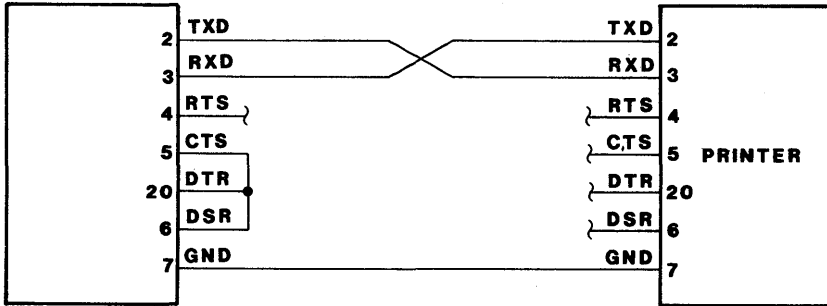

Figure 5-6. Null Modem for Graphics Printer
The wiring connections shown in Figure 5-6, interconnect the K450 to the Graphics Printer Accessory. The RS-232-C interface components are provided in the Graphics Printer Kit (part number A19510).
1. Connect the Graphics Printer to the K450, using the null modem diagram shown in Figure 5-6.